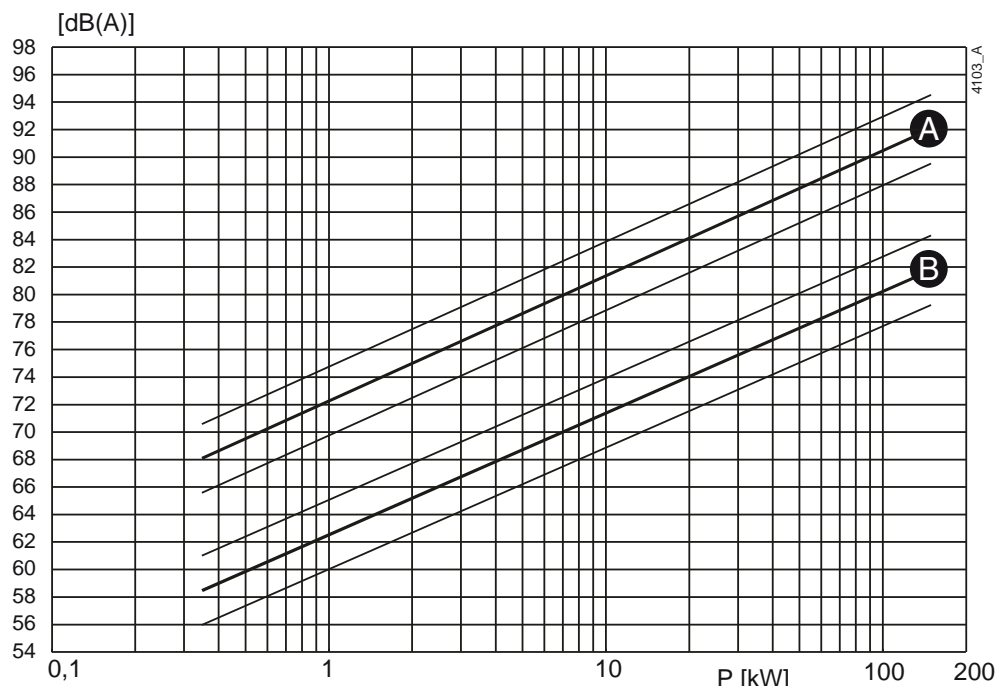
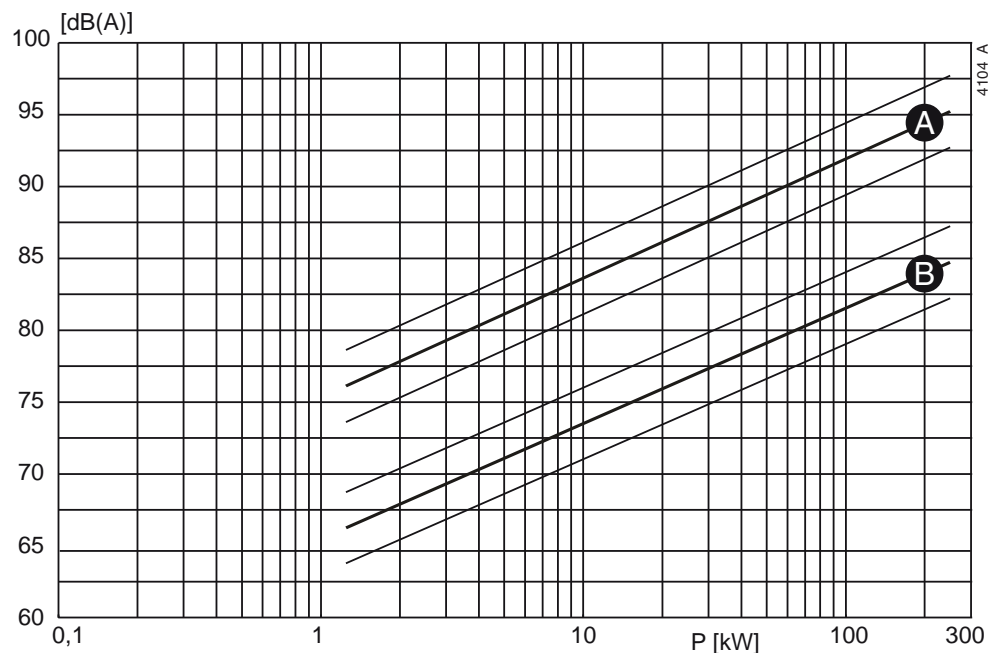

Figure 31: Noise level as function of pump power [kW] at 1450 min^{-1}
Figure 32: Noise level as function of pump power [kW] at 2900 min^{-1}
- 1 Determine the noise level (L1) of the pump, see figure 31 or figure 32.